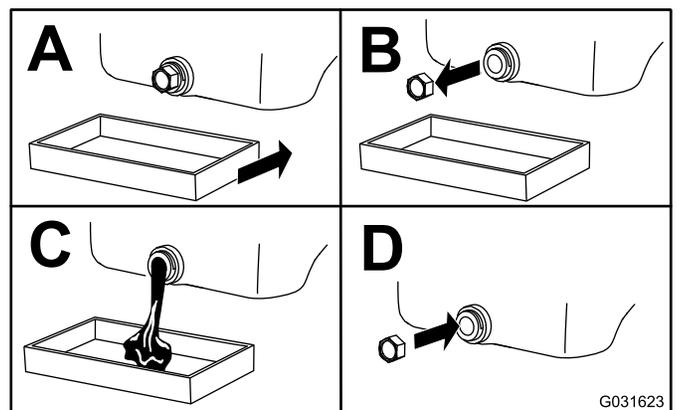

Figure 30
- Change the engine oil as shown in Figure 30.